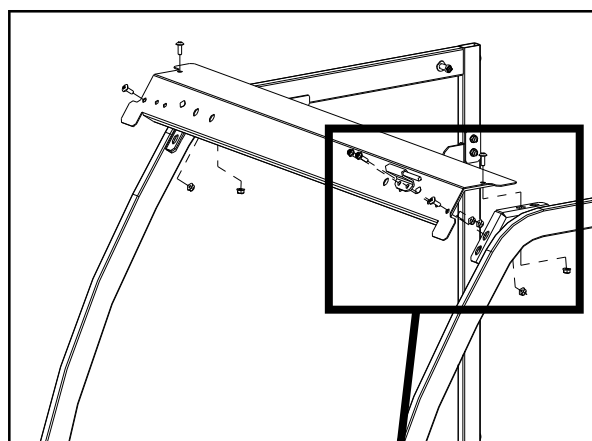

Fig. 4.1 (Windshield Support Installation)
4.1 Install windshield support. See Fig. 4.1 & 4.2. Tighten at this time.